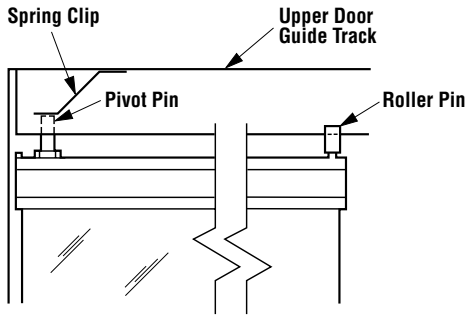

Figure 3
**Step 3.** Continue to tilt the top of the door into place until the upper pivot pin engages the spring clip and the pivot pin locks into place within the hole of the spring clip (see Figure 3).